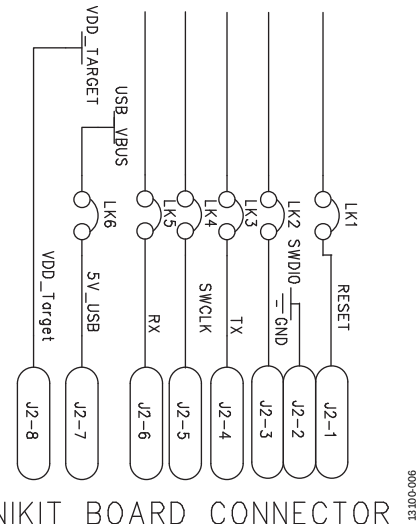

Figure 6. J-Link OB Connection Details
5. If the virtual serial communication port to the UART is to be used, ensure that Jumper LK3 and Jumper LK5 are in place (see Figure 6). If the UART on J8 is to be used, LK3 and LK5 must be removed to prevent contention.